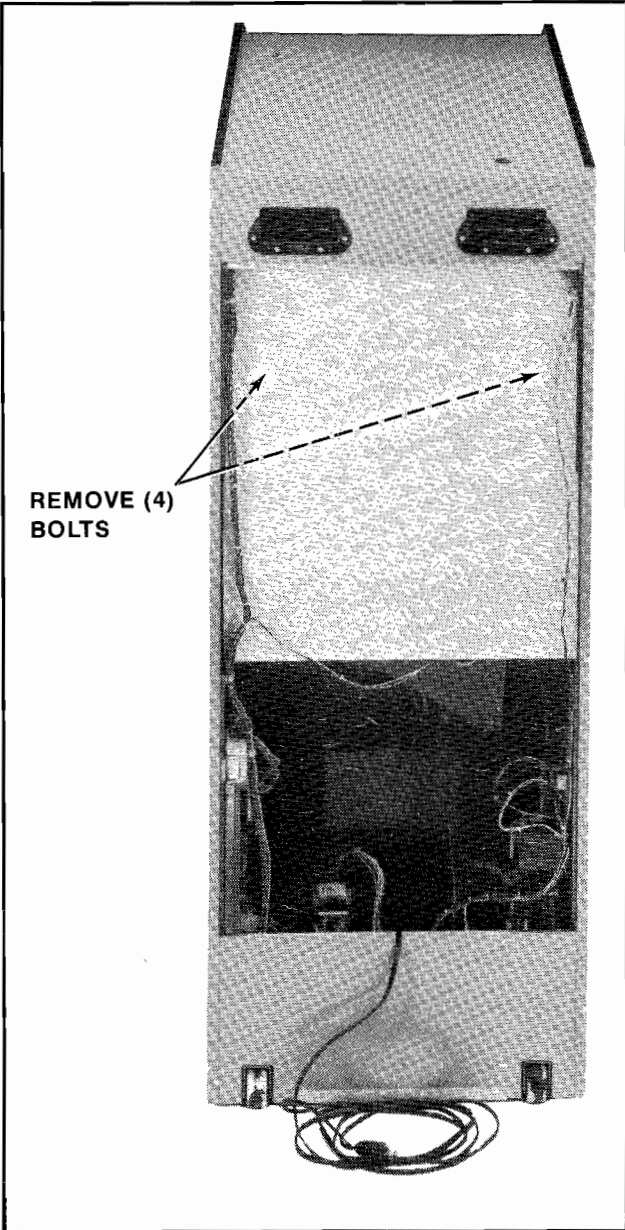

Figure 4-8 Removing the Monitor — Upright
### 1. UPRIGHT MODEL: See Figure 4-8.
- The monitor mounting bars slide on top of and against two metal guides mounted to the cabinet's right and left sides. The monitor is removed by sliding it out the back of the cabinet. See Figure 4-8.